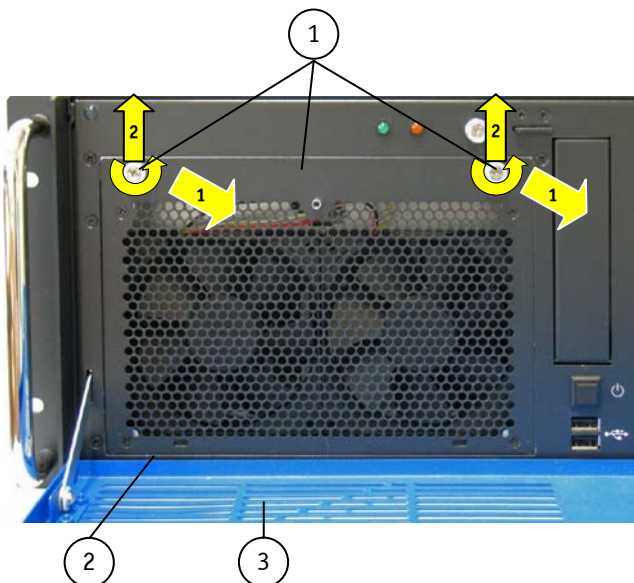
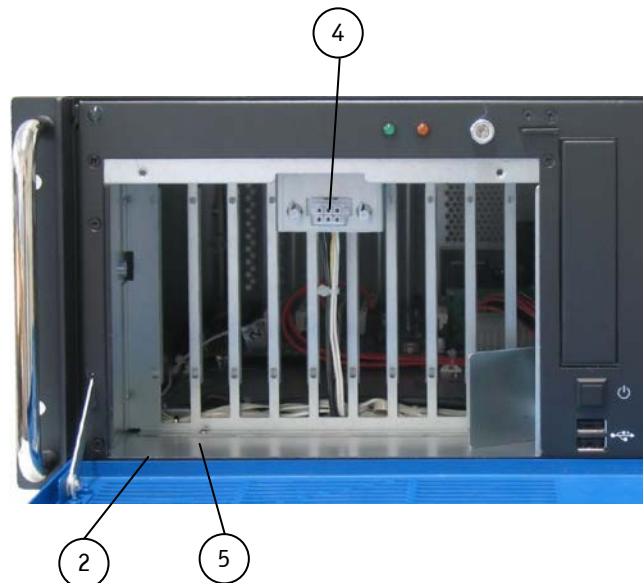
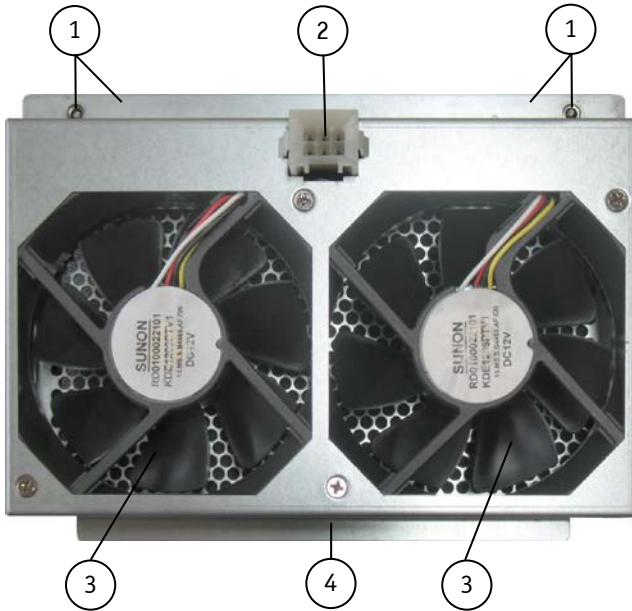
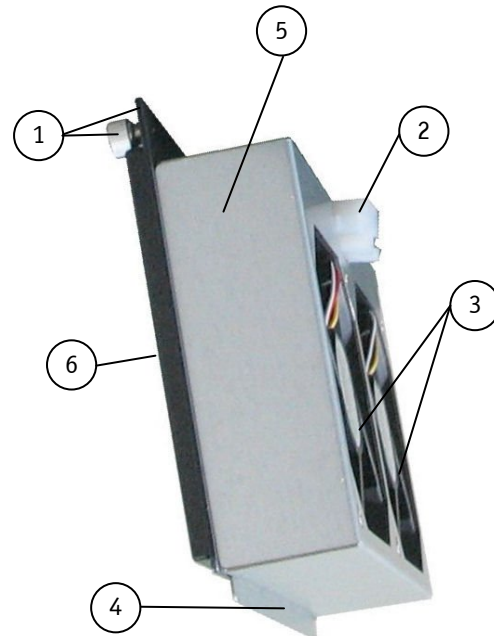

Fig. 45: Detail: Fan slide-in module without filter mat holder
Fig. 46: Detail: Fan compartment (without fan slide-in module)
Fig. 47: Inner side of the fan slide-in module
Fig. 48: Fan slide-in module with inserted filter mat
2. Loosen the two knurled screws of the fan slide-in module (Fig. 45, pos 1)
3. Pull the fan slide-in module out of the cabinet using the knurled screws to disconnect it from the internal fan control socket (Fig. 46, pos. 4).
4. Lift the fan slide-in module as shown (Fig. 45, pos. 2) out of the fan compartment (see Fig. 46).
Legend for Fig. 45 and Fig. 46:
6. Install the filter mat holder (put aside in step 1) with the filter mat to the front side of the fan slide-in module, as described in chapter 10.1 "Cleaning the Filter Mat" (step 7 and step 8; see also Fig. 48).
7. Insert the positioning plate (Fig. 47 and Fig. 48, pos. 4) into the fan compartment (Fig. 46, pos. 5) behind the fixing plate (Fig. 45 and Fig. 46, pos. 2).
8. After the positioning plate (Fig. 47 and Fig. 48, pos. 4) is properly inserted into the fan compartment, push the upper part of the fan slide-in module into the fan compartment until the fan control connector (Fig. 47, pos. 2) is firmly inserted into the socket (Fig. 46, pos. 4).